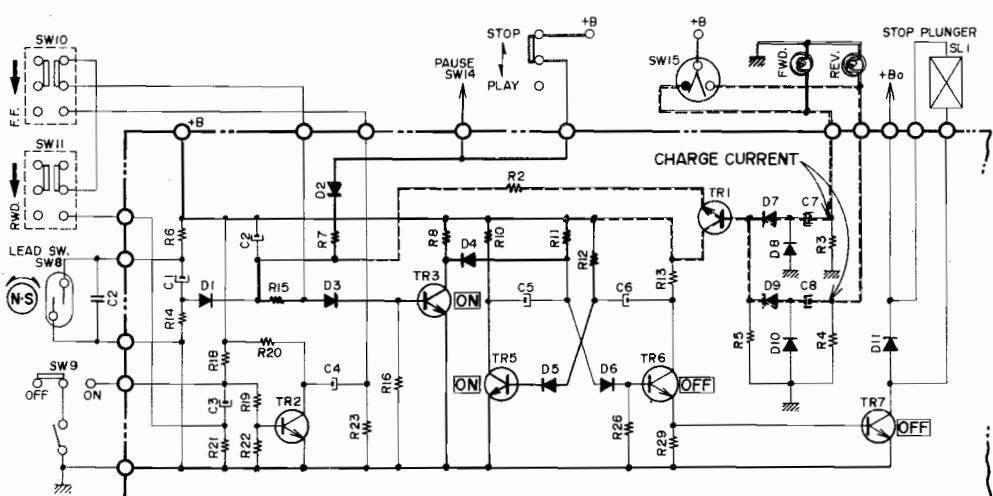

Fig. 44
CIRCUIT (Refer to Fig. 44)
- 1) When the Power Switch is turned ON, power is supplied to the syscon circuit. However, the various transistors inside the syscon must be maintained at a stabilized condition as shown in Fig. 44.